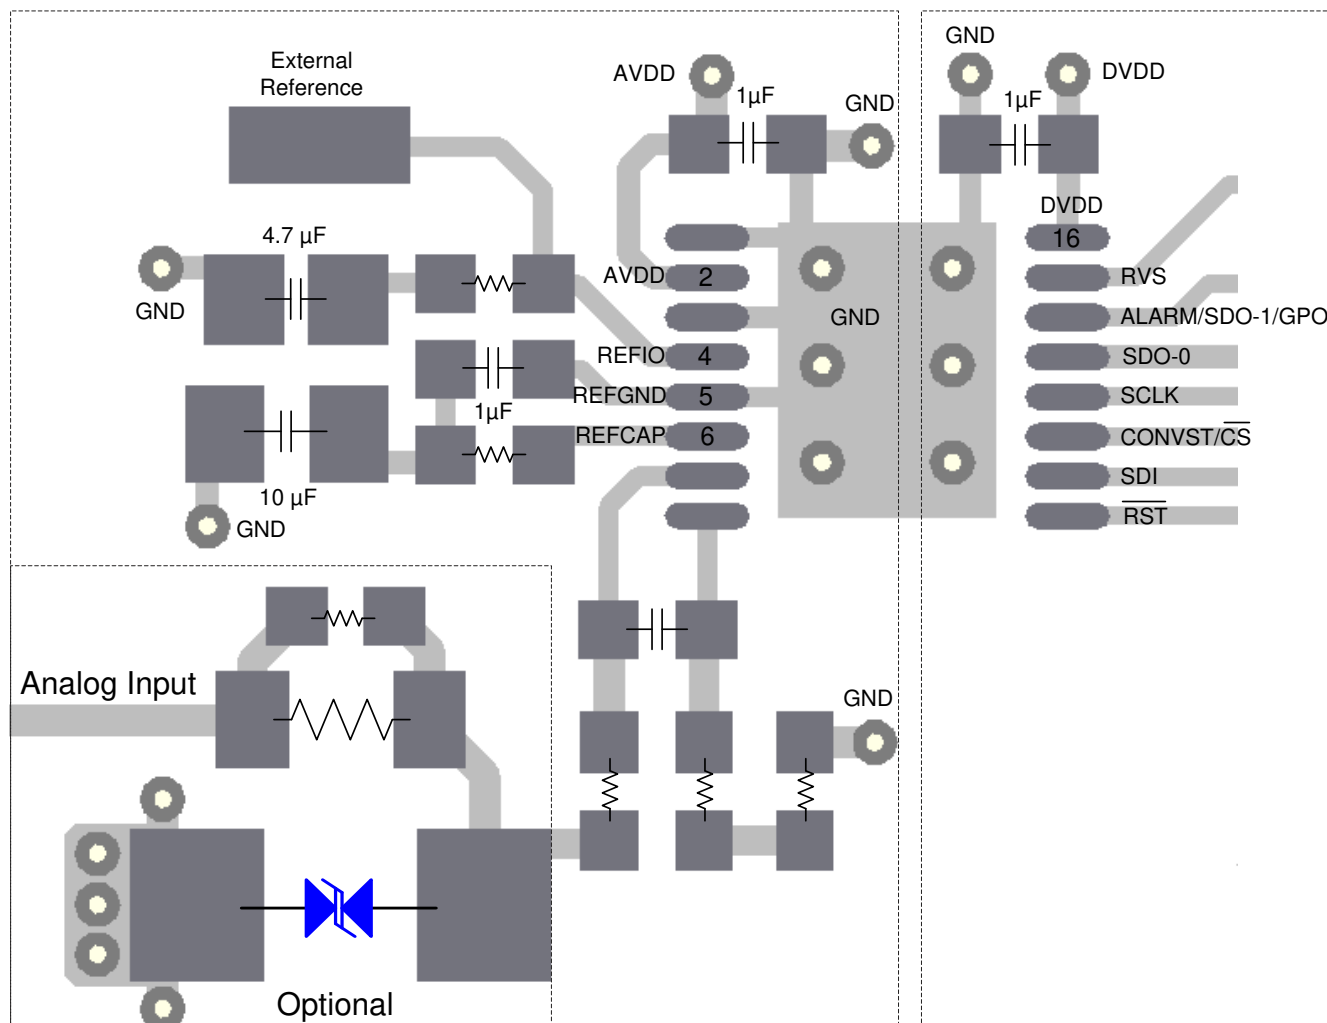

图 8-12. Board Layout for the ADS868x
**Figure 8-12** illustrates a PCB layout example for the ADS868x.